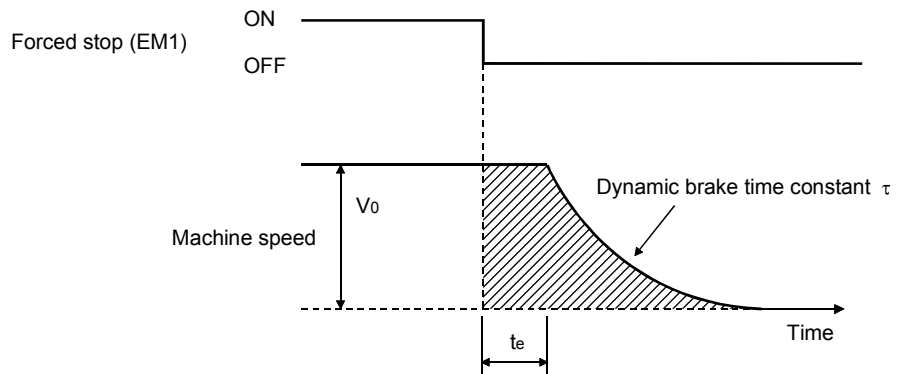

Fig. 8.2 Dynamic brake operation diagram
Fig. 8.2 shows the pattern in which the direct drive motor comes to a stop when the dynamic brake is operated. Use equation 8.1 to calculate an approximate coasting distance to a stop. The dynamic brake time constant  $\tau$  varies with the direct drive motor and machine operation speeds. (Refer to (2) of this section.)